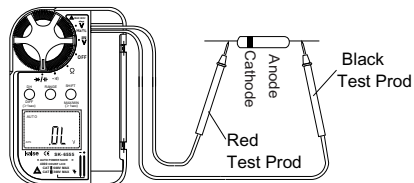

Fig. 7
- Connect Black Test Prod to Anode and Red Test Prod to Cathode of the diode being measured. This is Reverse Connection. Confirm that the LCD displays OL symbol. Refer to the figure7, 8.